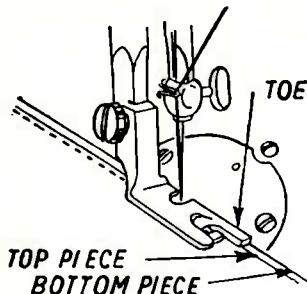

Fig. 35
1. Lay two pieces of cloth one on top of the other with their **RIGHT** sides facing each other. The right edge of the bottom piece must extend about $1/8$ inch beyond the right edge of the top piece. See (Fig. 35.)
2. Sew both pieces of cloth together, use the right edge of long toe of hemmer foot to guide the bottom piece of material, while the left edge of the same toe serves as a guide for the top piece of material. (Fig. 35).